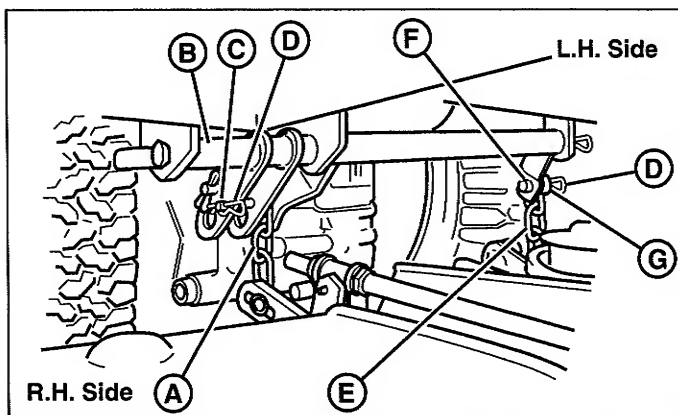

Figure 8. Mower Lift - Hydraulic Lift Models & 44"
3. **44" Models & Hydraulic Lift Models:** Disconnect the mower lift chains (A, E, Figure 8) from the tractor lift arm (B). Re-install clevis pins, washers and safety clips on mower lift arms for storage.
4. Disconnect the mower lift chains (A, E, Figure 8) from the tractor lift arm (B). Re-install clevis pins, washers and safety clips on mower lift arms for storage.